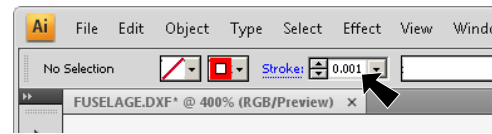

Fig. 40
Step 4. Key-in **Stroke .001** in the Control Panel, **Fig. 40**.